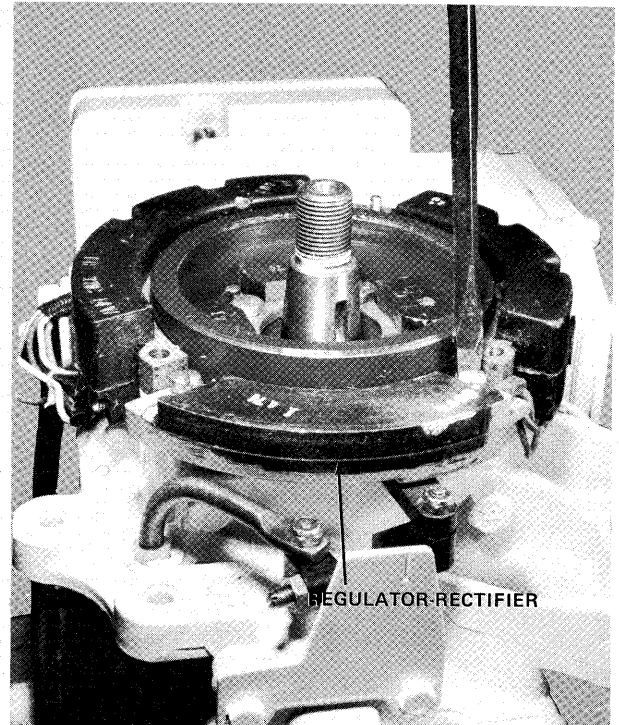

Figure 21 - Removing Regulator-Rectifier Module
- D. Remove two (2) screws and lockwashers securing regulator-rectifier leads to alternator module and remove one screw securing regulator-rectifier lead to terminal block.
- E. Remove two (2) screws and lockwashers securing regulator-rectifier to bearing cage as shown in figure 21 and remove same.